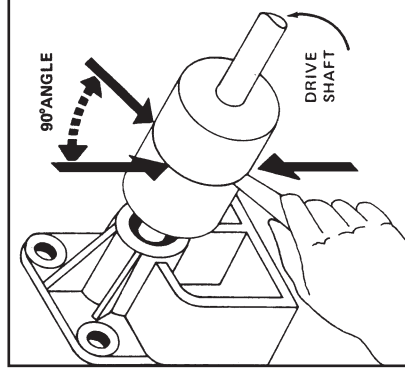

FIGURE 6
- To avoid angular misalignment, insert a measuring device (taper gauge or feeler gauge) between the coupling faces at four locations 90° apart (See arrows in Figure 6) and measure the gap at each of the four locations. For proper alignment all four measurements should be equal. Reshimming may be required to achieve this alignment.